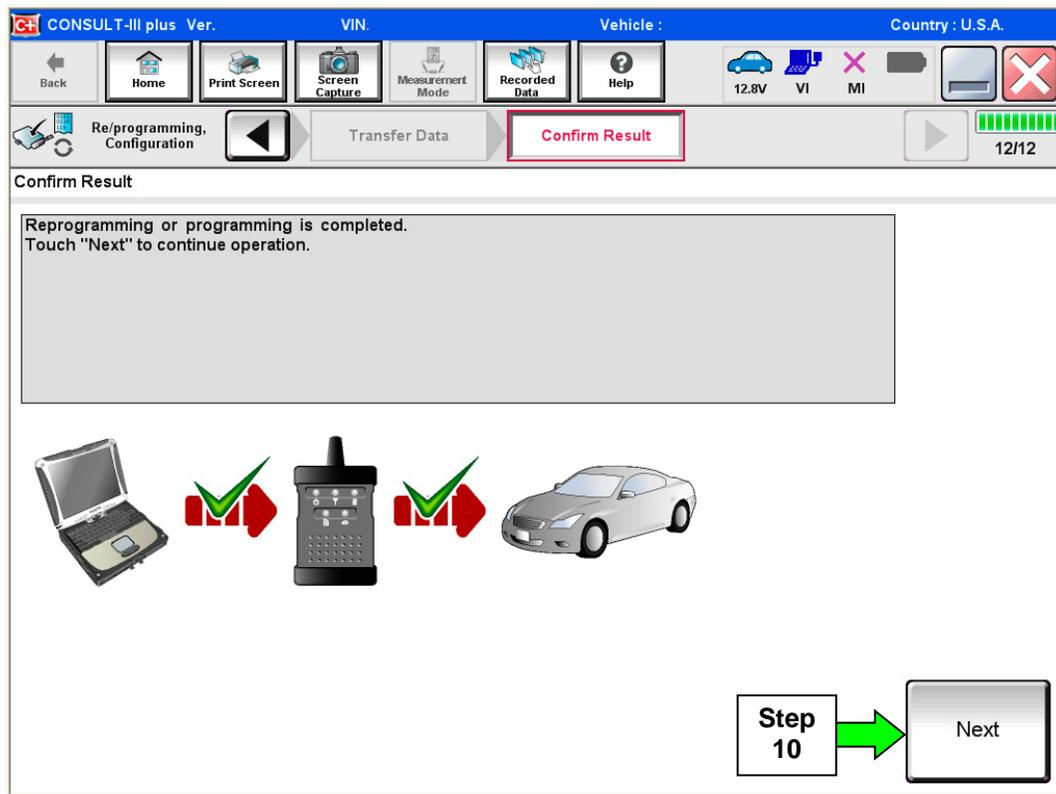

Figure 4
8. When the screen in Figure 4 displays, reprogramming is complete.
NOTE: If the screen in Figure 4 does not display (which indicates reprogramming did not complete), refer to the information on the next page.